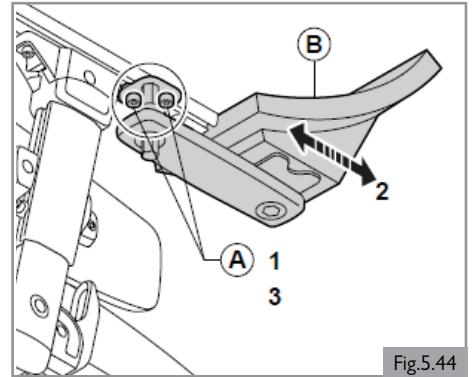

Fig.5.44
1. Loosen (A) by one turn.
2. Adjust (B) to the desired position.
3. Tighten (A). See section 9 for specified torque values.
5.11 Pre-set fixed / swing away controller**Bracket depth of the controller (Fig. 5.44)**